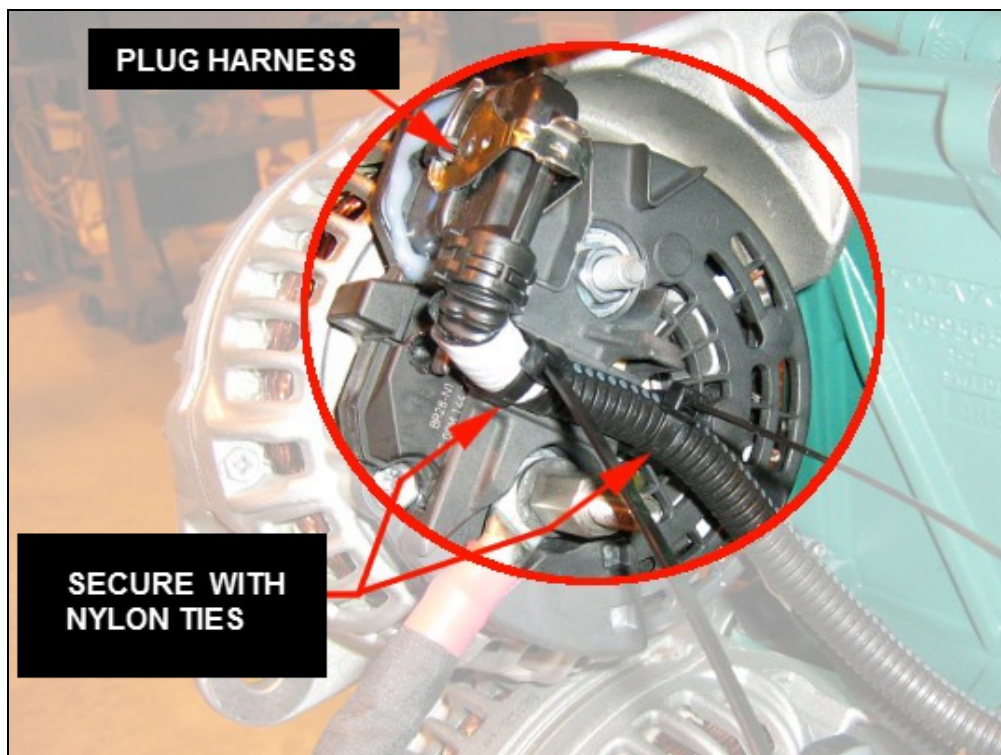

FIGURE 29
16. Plug alternator harness onto alternator connector and secure using nylon cable ties (FIGURE 29).